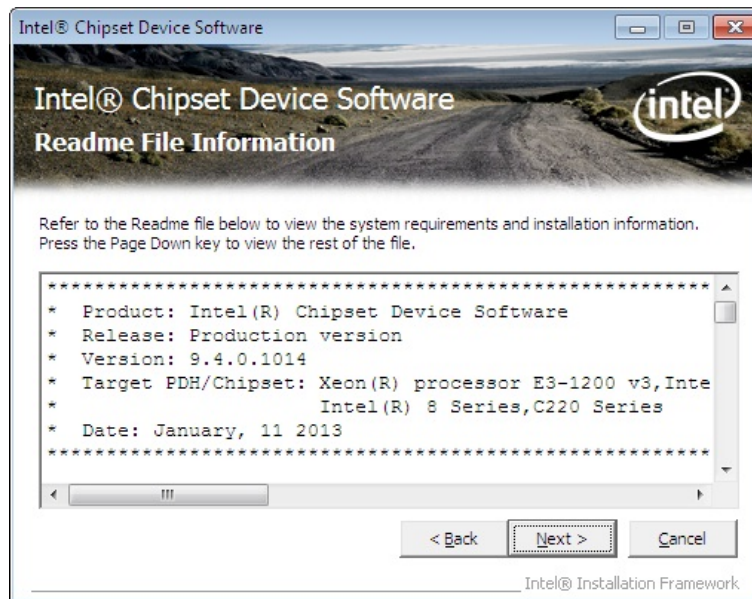

Figure 6-5: Chipset Driver Read Me File
**Step 9:** The **Read Me** file in **Figure 6-5** appears.